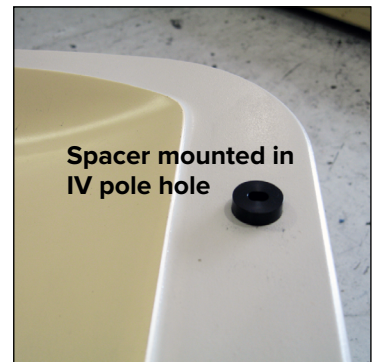

Fig. 1
1. Mount the Spacers in the IV Pole Holes of the CT cradle (Fig. 1). The Spacers have a slot which needs to be aligned across the CT cradle. This allows for variances on the IV Pole Hole locations.